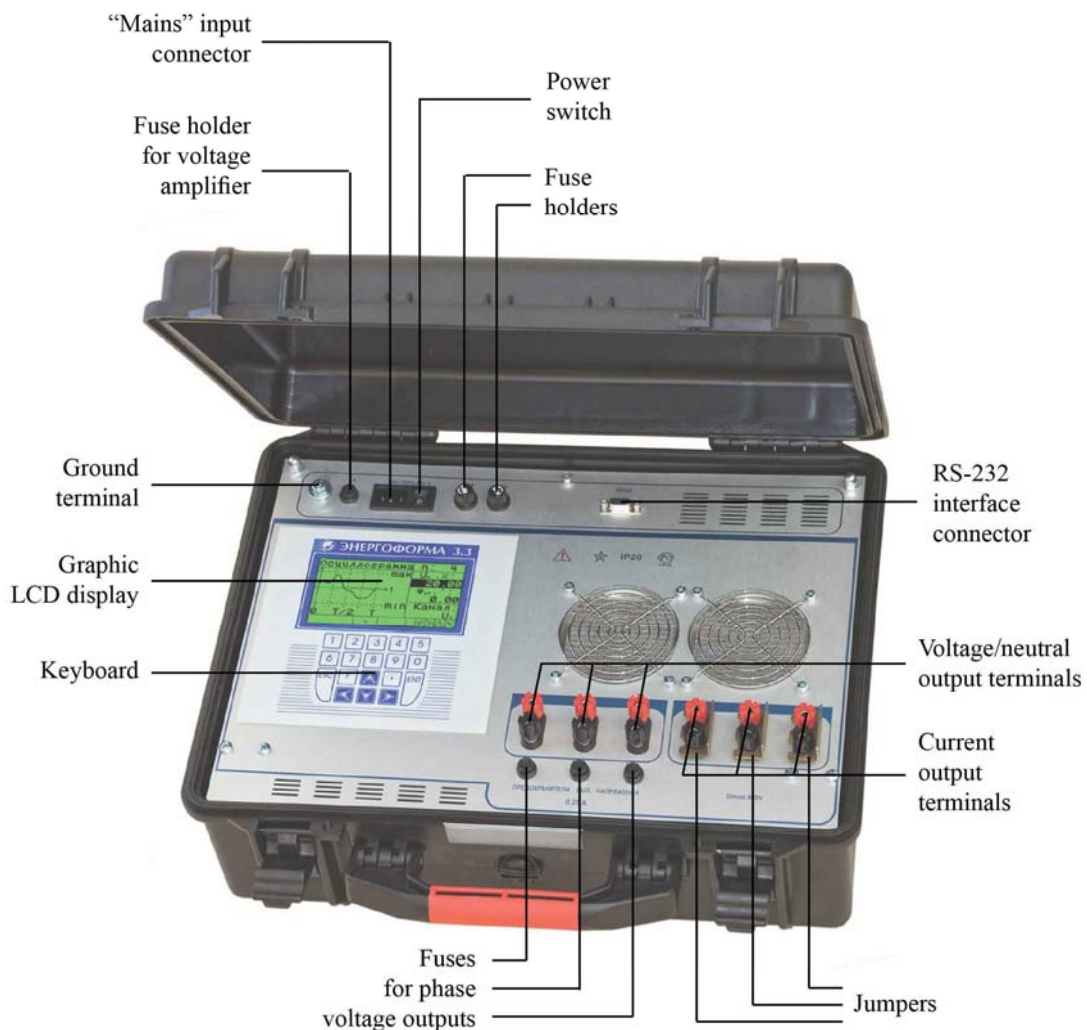

Fig. 2.1. Front panel
2.2.1. The generator is supplied as a self-contained hand-held module. The Generator's front panel is shown in Fig. 2.1.
The Generator's voltage circuits have 6 terminals (U_A , U_B , U_C) for connection to phase voltages (and neutral); six terminals are provided for phase currents (I_A , I_B , I_C). Current circuits are galvanically isolated from each other and from voltage circuits. The voltage circuits are symmetrical and have one common point (neutral conductor). All connections to measured circuits are made via terminals located on Generator's front panel (see Fig. 2.1).